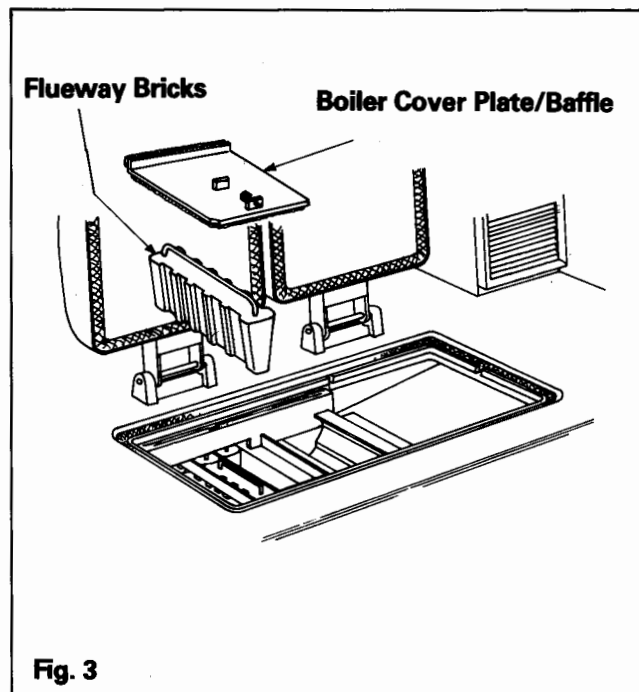

Fig. 3
- Lift out boiler combustion separator baffle and remove boiler flueway firebricks – See Fig. 3.